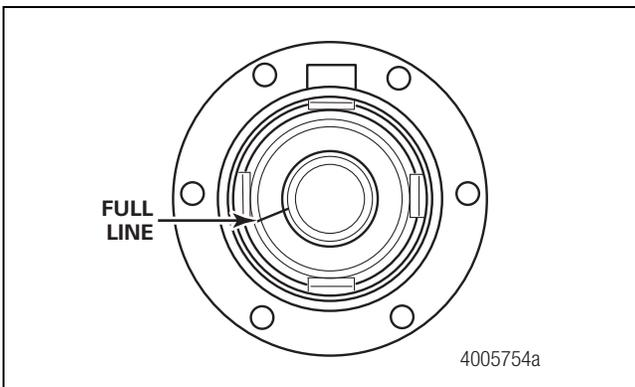

Figure 5.11
2. Verify that the hubcap is filled to the oil level mark on the face of the cap. Refer to the original equipment manufacturer's specification if the fill hole is not available. Figure 5.11.